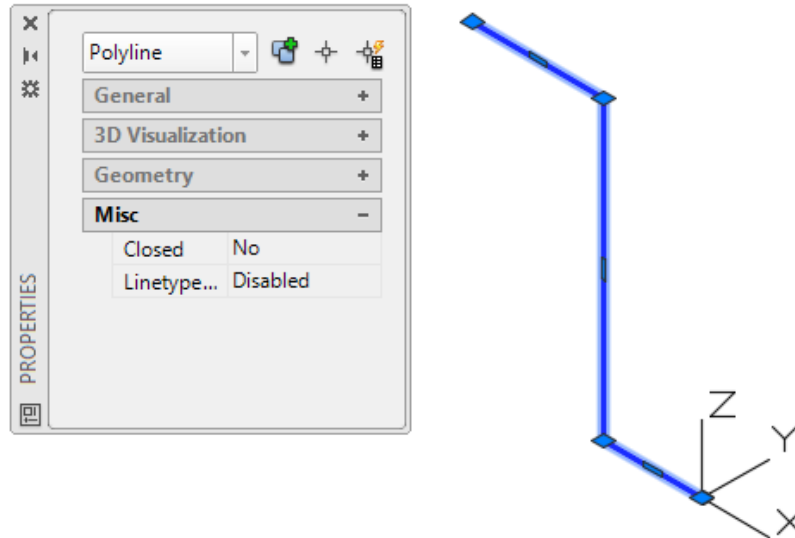

Figure Step 7
Step 7 Using the Properties windows, check to ensure that the object is one polyline. (Figure Step 7)